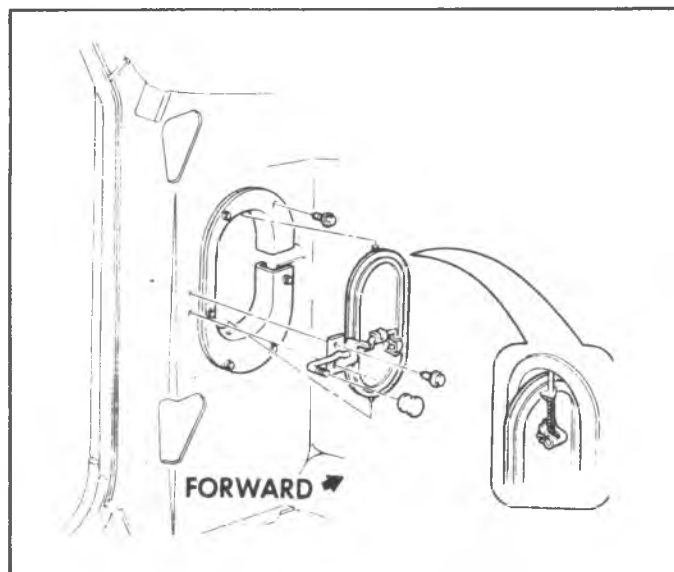

Fig. 2D-98--Side Cowl Ventilator
1. Remove screws retaining valve guide to panel, as shown in figure 2D-98.